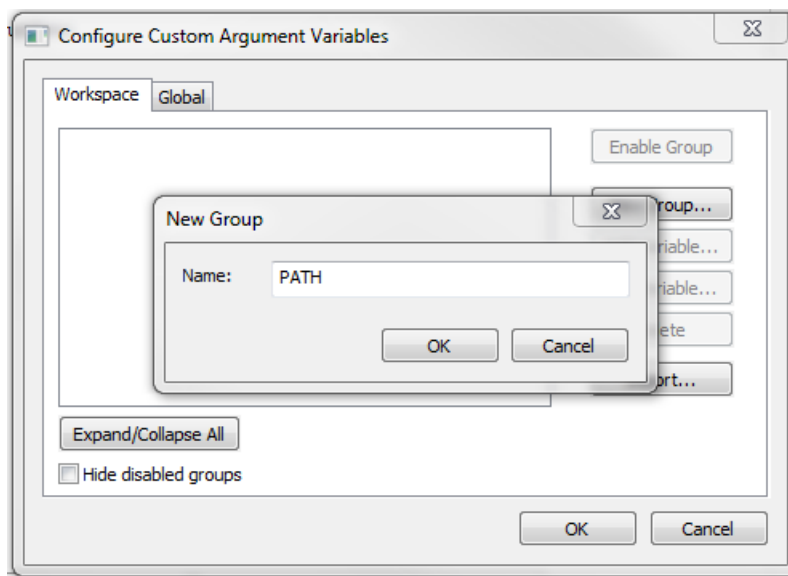

Figure 1-30. New Group
2. Click the New Group button, and another dialog appears. In this dialog, type the name of the group PATH, and click OK. See Figure 1-30.